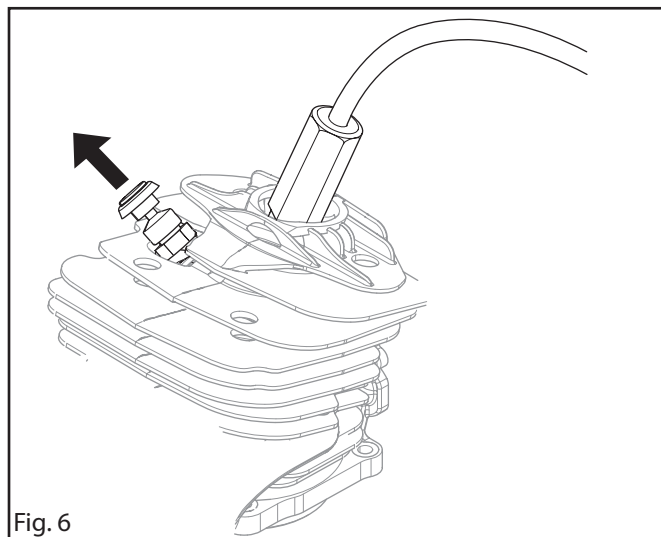

Fig. 6
3. Connect the pressure vacuum tester tool to tool Pressure test adapter that is fitted instead of spark plug. See figure 6. The decompression valve should be closed.